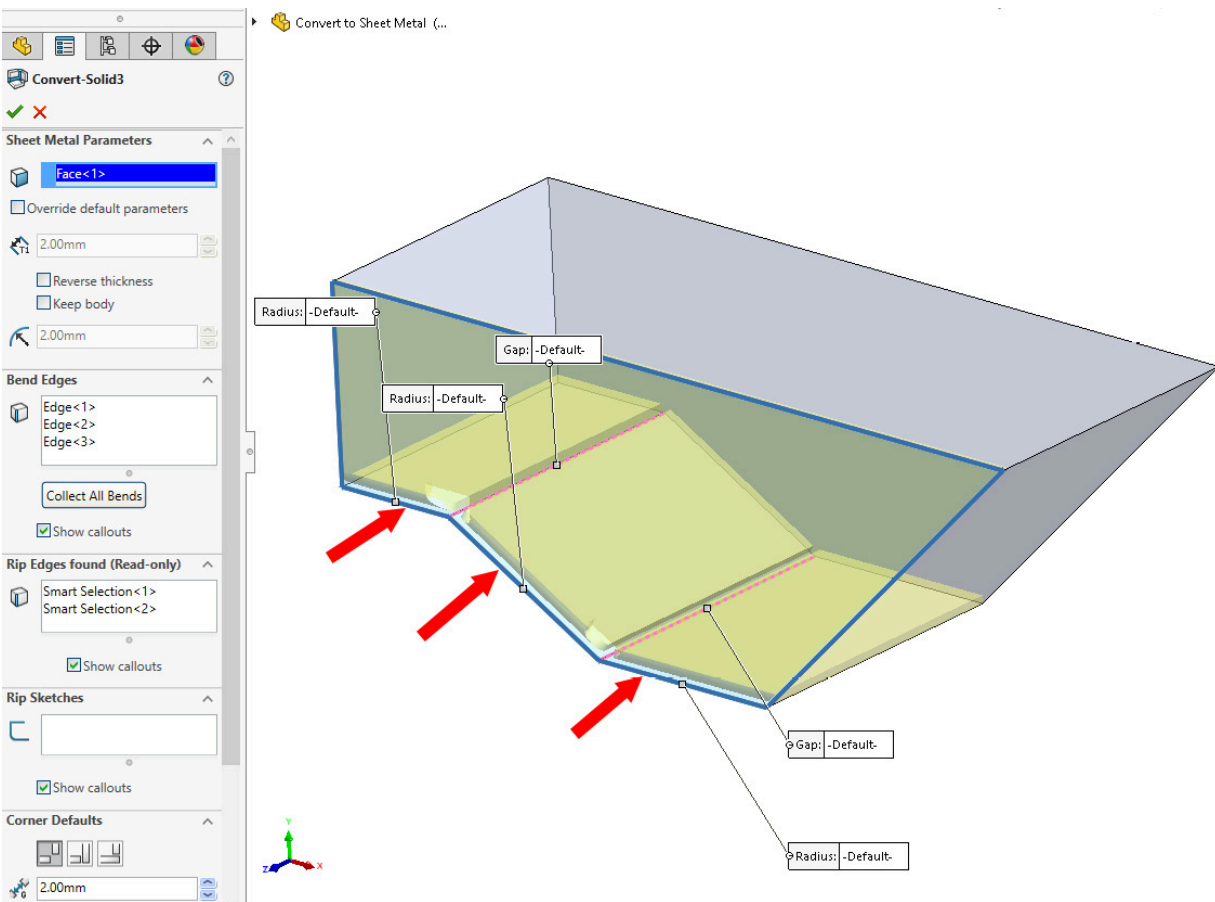

Figure 12.26: Adjust the Convert Solid feature
2. Change the Fixed Face from the small underside face to the large side face (Figure 12.26). Then remove any existing **Bend Edges** (this will automatically remove any Rip Edges, if it does not then delete these manually) and just add the three **Bend Edges** shown.